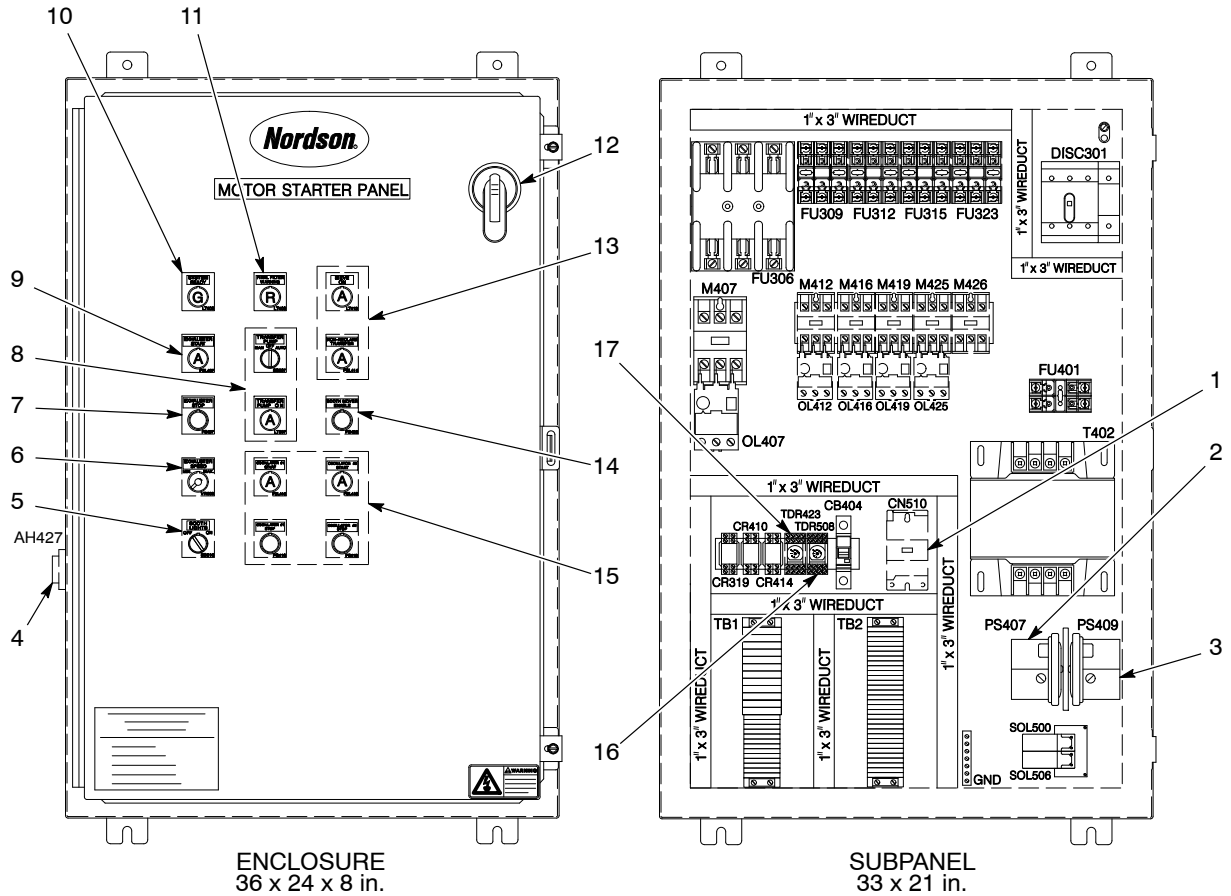

Figure 2-8 Electrical Panel Controls and Indicators (Pre-2003)
1. Disconnect the system electrical power and open the system electrical panel (2).
2. Set the transfer-pump delay to 60 seconds (see Figure 2-8, (17)). Close the electrical panel.
1. Set all air pressure regulators on the pneumatic panel (3) to zero.
4. Use the seal control valve (7) to inflate the pneumatic seal between the color module and the fan section. Make sure the seal is pressing against the top of color module equally on all four sides
5. Turn on the exhaust fan (see Figure 2-8, (9)).
6. Open the feed hopper access door (6). Fill the hopper  $\frac{2}{3}$  full of powder.